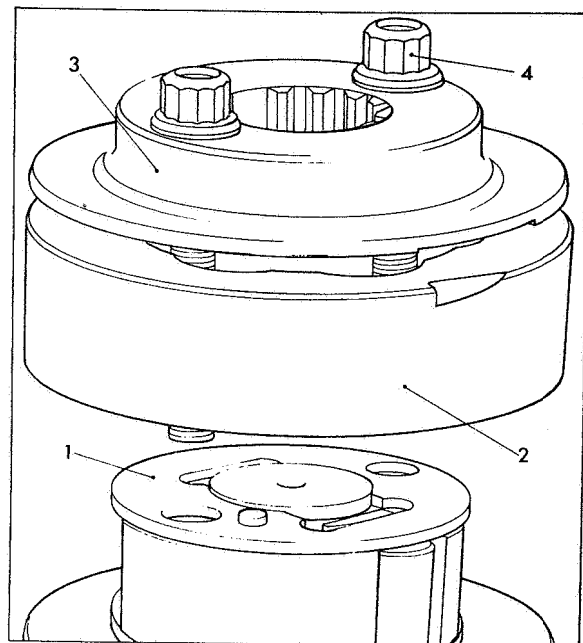

Fig 87 Top adjusting plate alignment
Locate the top stop plate (1) Fig 87 with its chamfered edges downwards over the dowel and the projecting ears of the shoes. Assemble cam ring (2) notch uppermost. Position drive plate (3) with its slot over the dowel and secure with drive plate screws (4).